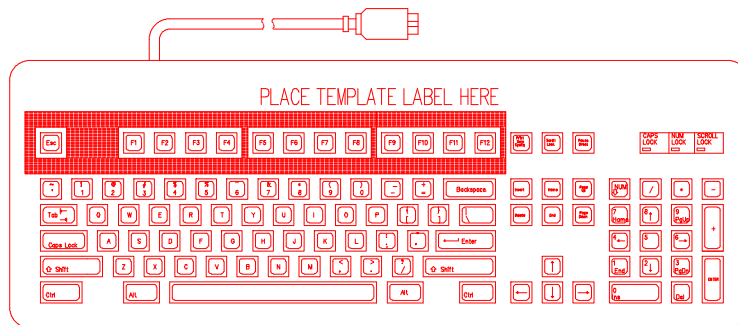

Figure 1 Keyboard Label
9. Clean the keyboard surface to remove dirt and dust. Peel the backing off the Keyboard Label (0692-1034-01) and place the label around the function keys as shown in Figure 1.